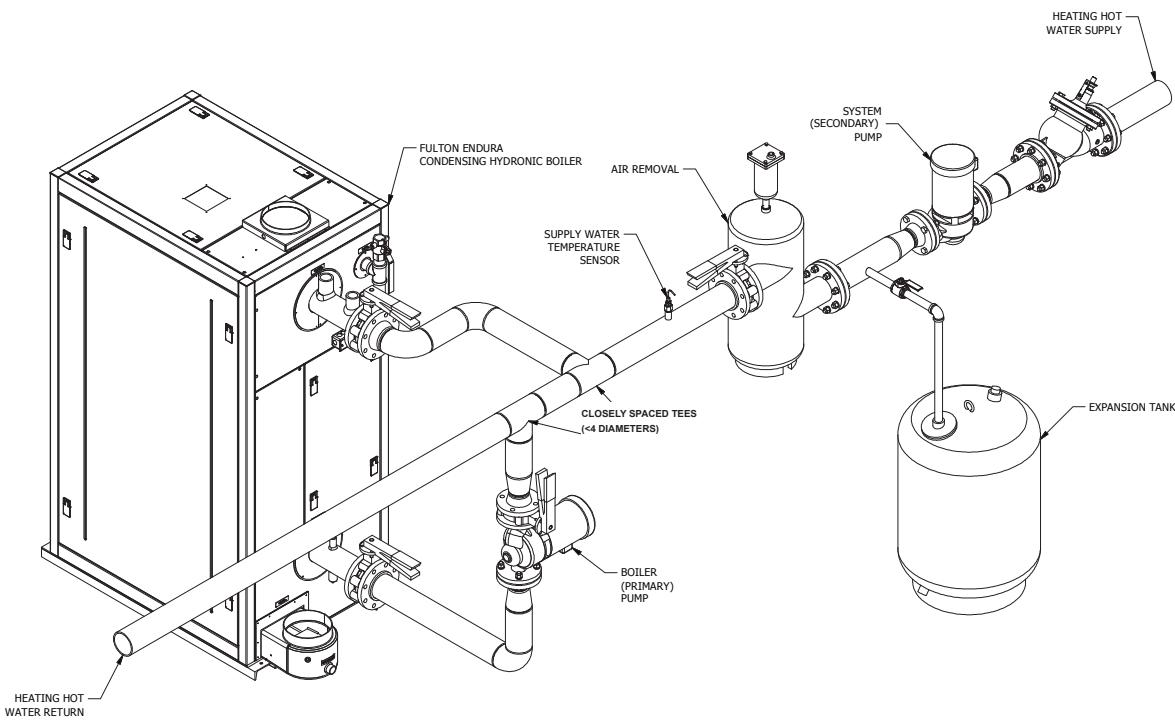

FIGURE 6 - SAMPLE PIPING LAYOUT, PRIMARY - SECONDARY PIPING; SINGLE BOILER
It is acceptable to install this boiler in a primary-secondary arrangement, although this arrangement is not required. See Figures 6 and 7. Primary-secondary arrangements are used to decouple the water flow of the primary (boiler) loop from the secondary (system) loop. Blending occurs in the shared piping region.
1. See Table 3 for required natural gas pipe size, based on overall length of pipe from the meter plus equivalent length of all fittings. Approximate sizing may be based on 1,020 BTU for 1 cubic foot of natural gas. See Figures 6 and 7 for piping arrangements.